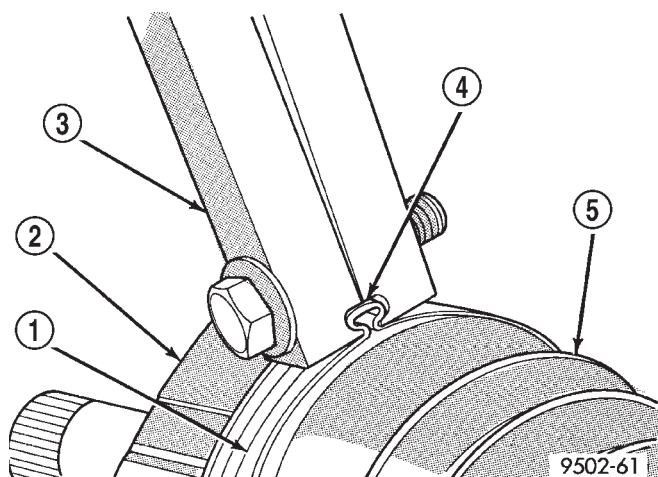

Fig. 38 Sealing Boot Retaining Clamp Installed
- Tighten nut on crimping tool C-4975-A until jaws on tool are closed completely together, face to face (Fig. 38).